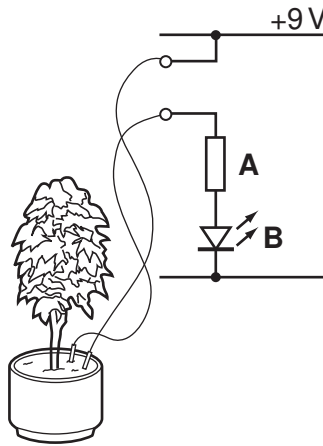

Fig. 2
- 1 Fig.2 shows a pot plant with a moisture sensor fitted so that an alarm is set off when the compost becomes dry and the plant needs to be watered.